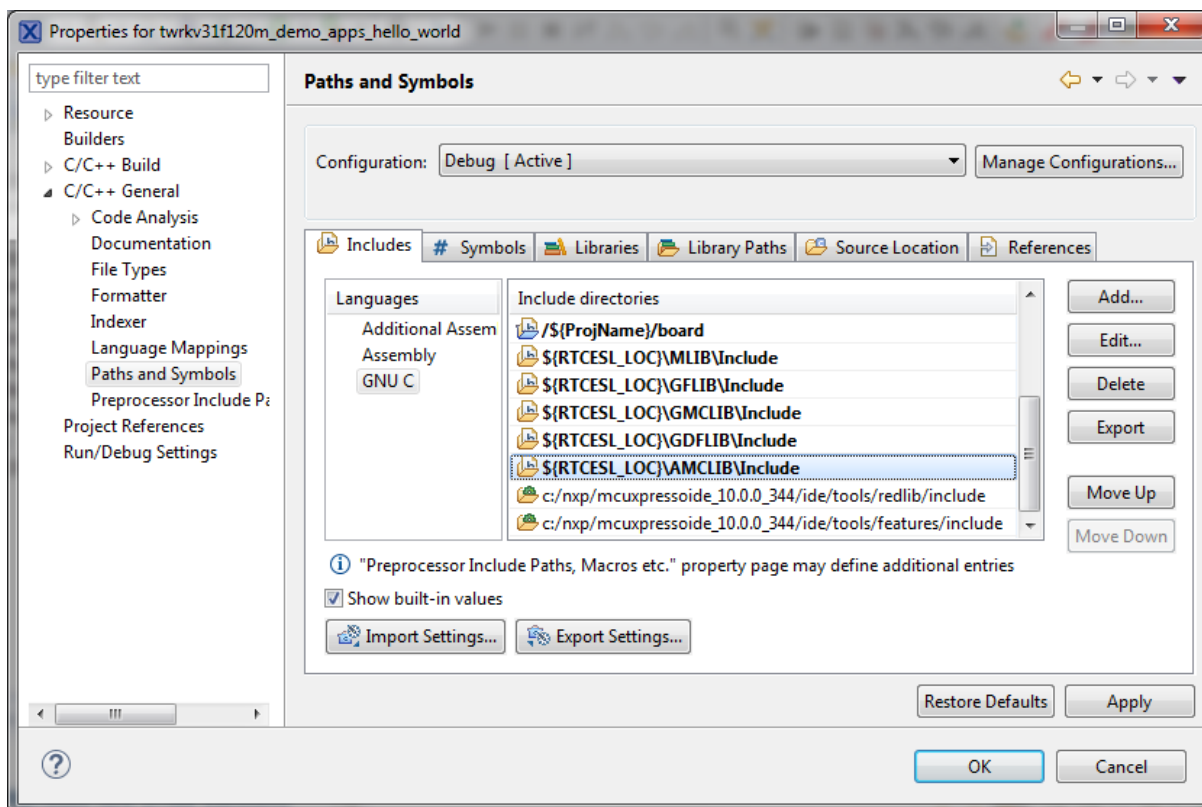

Figure 1-11. Compiler setting
27. In the right-hand dialog, select the Includes tab, and click GNU C in the Languages list. See Figure 1-11.
38. Click OK, and you will see the paths added in the list. See Figure 1-11. Click OK.